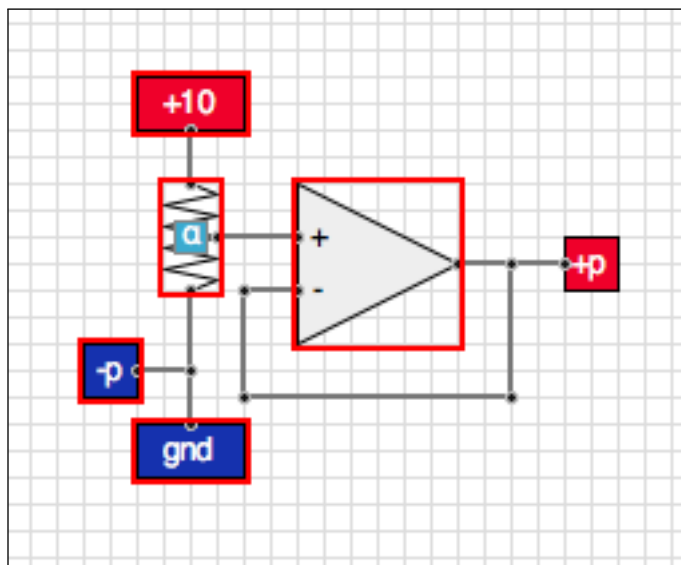

FIGURE 2. Demonstration of a selected set of components on the drawing board.
2.3. Manipulating multiple components. The Circuit Simulator editor allows manipulating multiple items at the same time. To do so, select a set of items using a selection rectangle by first clicking at an empty place on the board and dragging to extend the selection rectangle. Figure 2 shows a set of selected items on the board. Once a set of items is selected, the user may move the items by using the arrow buttons, or delete the items by pressing **Delete** or **Backspace**.